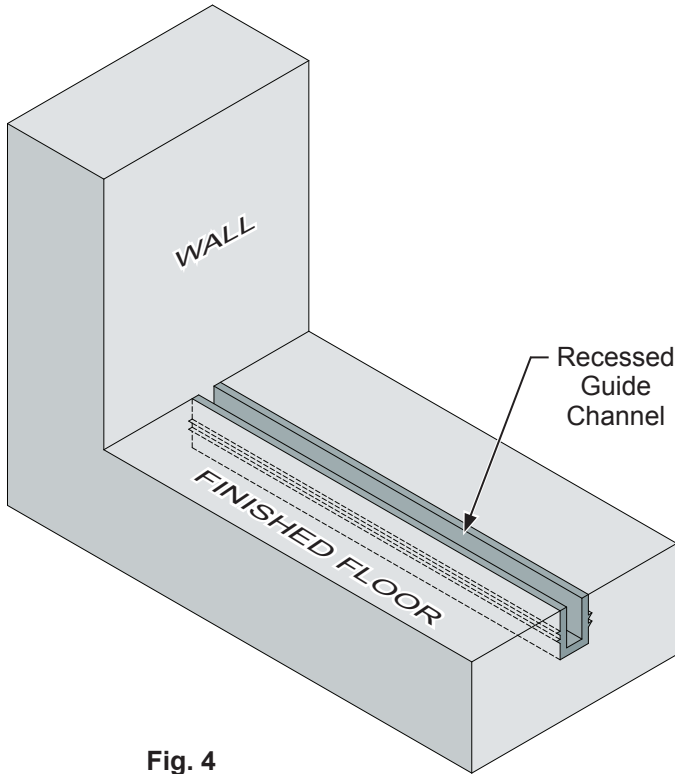

Fig. 4
1. The guide channel is set into the floor and is positioned directly under the center of the top track. (**Fig. 4**)